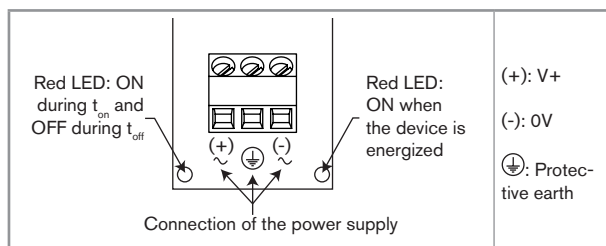
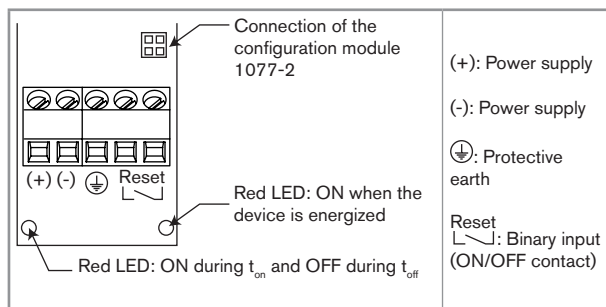

Fig. 5: Terminal assignment of the 1078-1
Fig. 6: Terminal assignment of the 1078-2
- Insert the cable through the nut then through the cable gland and refer to Fig. 5 or Fig. 6 for wiring.
- Install the 1077-2 with its seal onto the 1078-2, in any position. See Fig. 6, page 22.